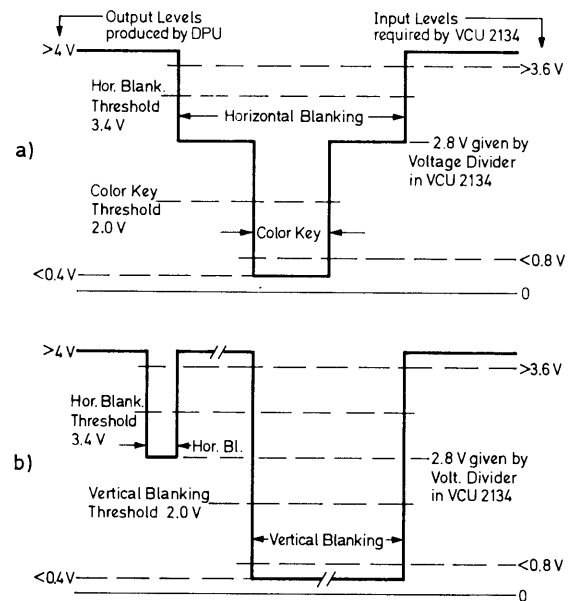

Fig. 7: Pulses which control the VCU's blanking circuit
- MUX data transfer of the chroma signals from PSP to VCU 2134. Upper line: sync pulse from pin 8/PSP to pin 21/VCU during sync time in horizontal blanking time, see Fig. 7 b. Lower line: valid data from pins 8 to 11/PSP to pins 18 to 21/VCU
The blanking circuit is controlled by two pulse combinations supplied by the DPU 2554 Deflection Processor ("sandcastle pulses"). Pin 34 of the VCU 2134 receives the combined vertical blanking and delayed horizontal blanking pulse from pin 22 of the DPU (Fig. 7 b), and pin 36 of the VCU gets the combined undelayed horizontal blanking and color key pulse from pin 19 of the DPU (Fig. 7 a). The two outputs of the DPU are tristate-controlled, supplying the